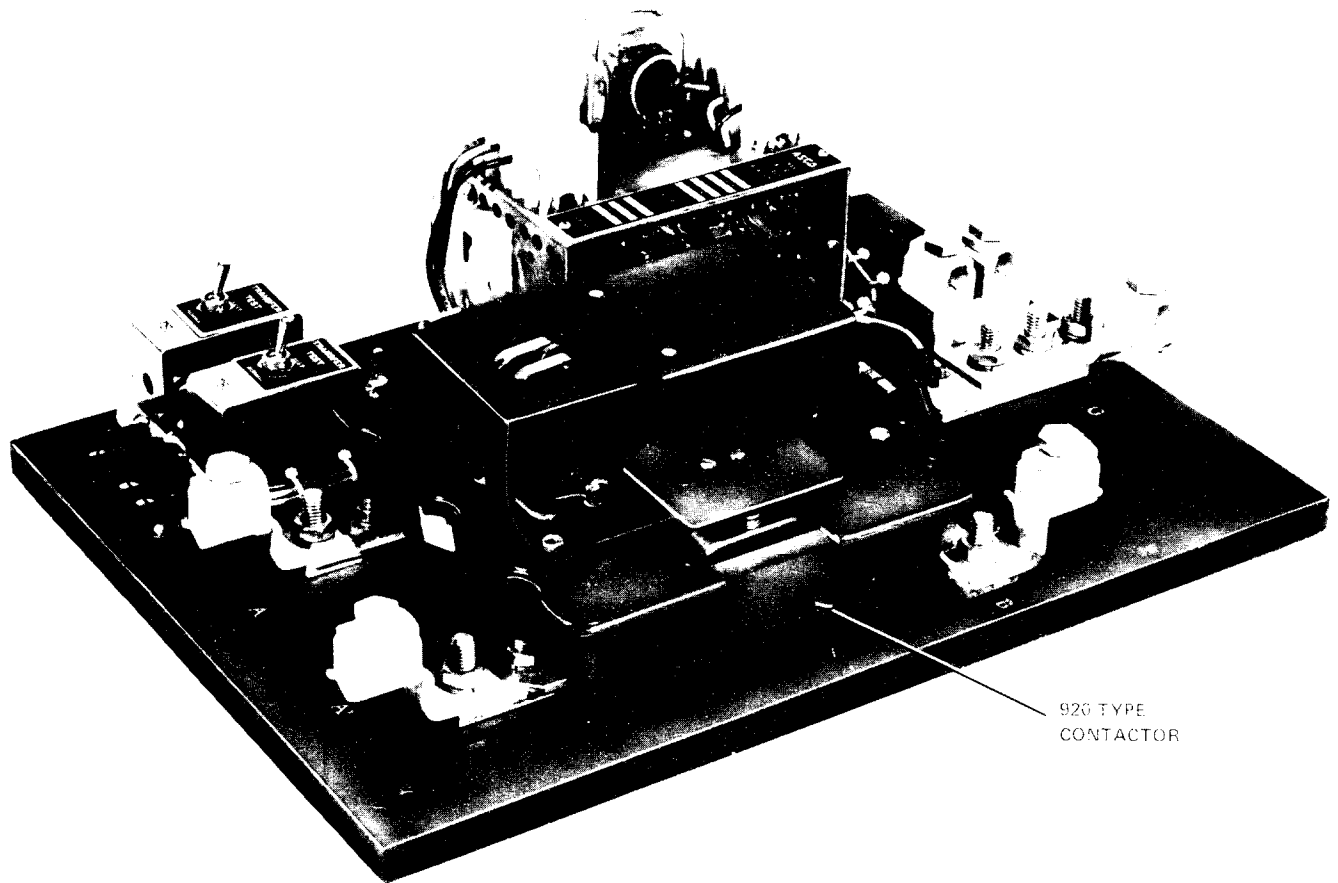

Fig. 9—920-Type Contactor Shown as KS-5189-03 Emergency Lighting Switch (New Version)
To check the requirement, listen for the release of the auxiliary switch or remove the cover and note that when the catch releases, the arm moves to the position shown in Fig. 9.
**2.09** The 909-type contactor is designed for single-phase operation, 30 amps and lower. The 920-type contactor (Fig. 9) is designed to be used on 30 through 225 ampere, single and 3-phase